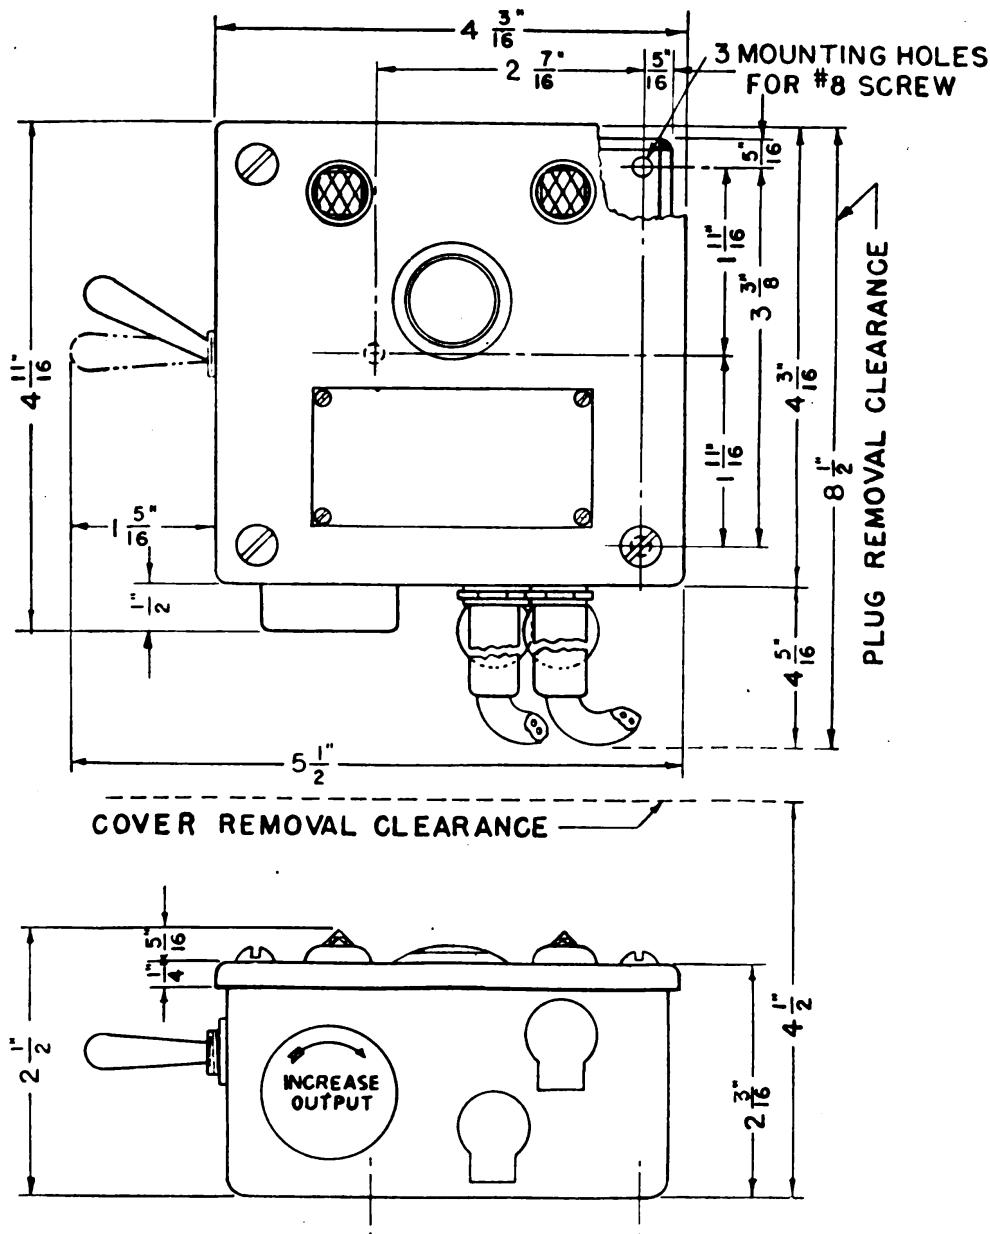

FIGURE 6.—Jack box BC-378 or BC-678.
*f. Jack box BC-378 or BC-678* (driver) (fig. 6).—This unit consists of a sheet steel box approximately 4 inches long x 4 inches wide x 2 inches deep, and a cover. In it are mounted: one 10,000-ohm wire wound potentiometer for volume control; one double-pole, single-throw toggle switch for the driver's microphone; two jacks, one for headset, one for microphone; one push-button signal switch; two indicating lamps, one red and one green; and one 12-point terminal block which connects the unit to the rest of the system.